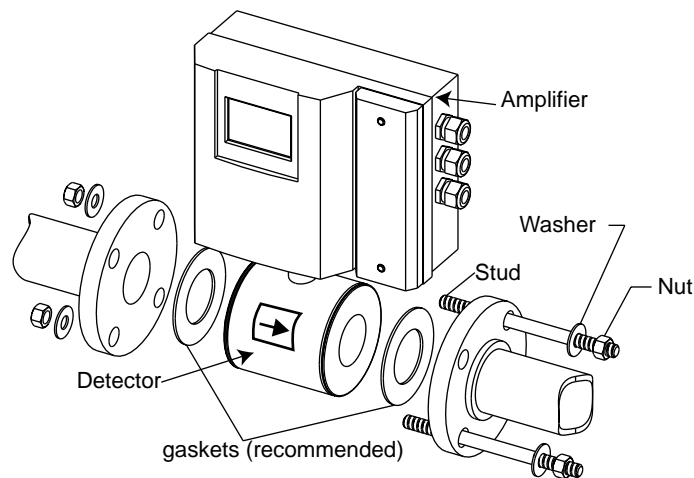

Figure 2-1.
1. Install appropriate mating connectors in pipeline. Provide proper gap length for meter. On meters with flanged ends, allow for gaskets at both inlet and outlet of meter. The wafer style meter does not require gaskets between flanges since the liner will provide, in most cases, enough of a seal for proper operation. If however, this is not the case, install gaskets that are chemically compatible with the fluid to be measured. On wafer style meters, the detector is "sandwiched" between two flanges. Special flange through studs are provided for the installation. (See figure 2.1)